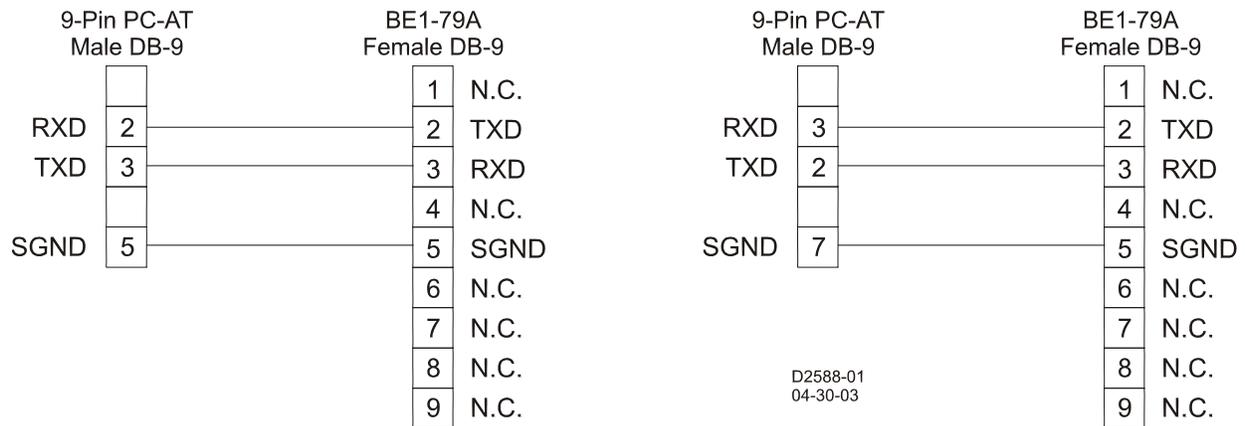

Figure 5-8. PC to BE1-79A Connections
The BE1-79A uses a standard RS-232 (DB-9) female connector located on the front panel. Connector pin numbers, functions, names, and signal directions are listed in Table 5-1. Figure 5-8 provides a connection diagram for connecting the BE1-79A relay to a personal computer (PC).